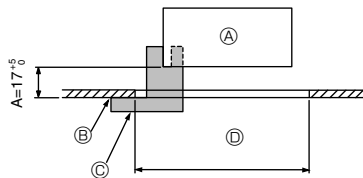

Fig. 9-2
①	Grille	1	950 × 950 (mm)
②	Screw with captive washer	4	M5 × 0.8 × 25
③	Gauge	1	(Divided into 4 parts)
④	Fastener	3
⑤	Screw	4	4 × 8
⑥	Screw	1	4 × 12
⑦	Wireless remote controller	1	for PLP-6BALM, PLP-6BALME
⑧	Wired remote controller	1	for PLP-6BAMD, PLP-6BAMDE
⑨	i-see sensor corner panel	1	for PLP-6BAE, PLP-6BAMDE, PLP-6BALME
9.2. Preparing to attach the grille (Fig. 9-2)
- With the gauge ③ supplied with this kit, adjust and check the positioning of the unit relative to the ceiling. If the unit is not properly positioned relative to the ceiling, it may allow air leaks or cause condensation to collect.
- Ⓒ Gauge ③ (inserted into the unit)